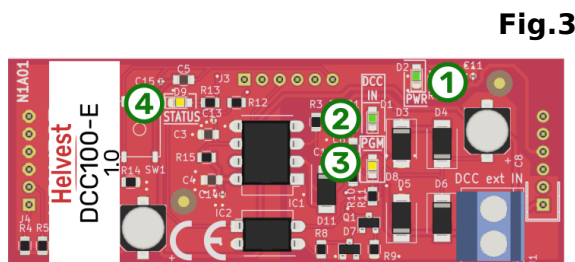

Fig.3
After connecting everything as described, activate the DCC signal with the controller. Green LEDs 1 and 2 will light up, indicating that the connections are correct and the decoder is on. (figure 3).
- The flashing of LED no. 3 on the DCC100-E module (fig. 3) means that it is responding to the control unit during programming.